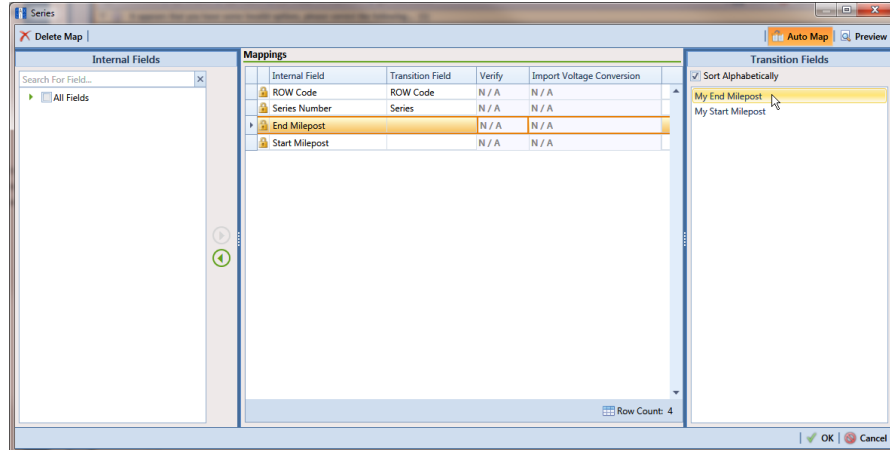

Figure 10-67. Field Mappings
- a** Click  **Edit** in the *Maps* group box to open a field mapping window (Figure 10-67, page 554).
NOTE: Fields in the *Mappings* panel with a lock icon  are required fields for mapping, such as *ROW Code*, *Series*, *End Milepost*, and *Start Milepost* shown in Figure 10-67 (page 554).